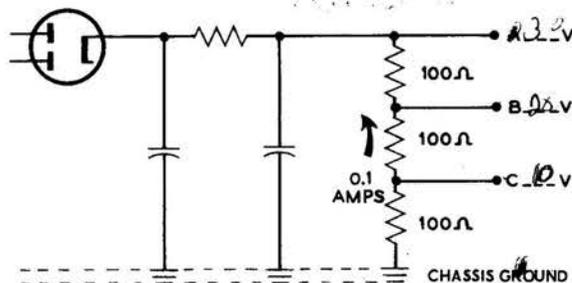

Figure 2P
- In Figure 2P use ohms law to calculate and fill in the three voltages on the voltage divider.